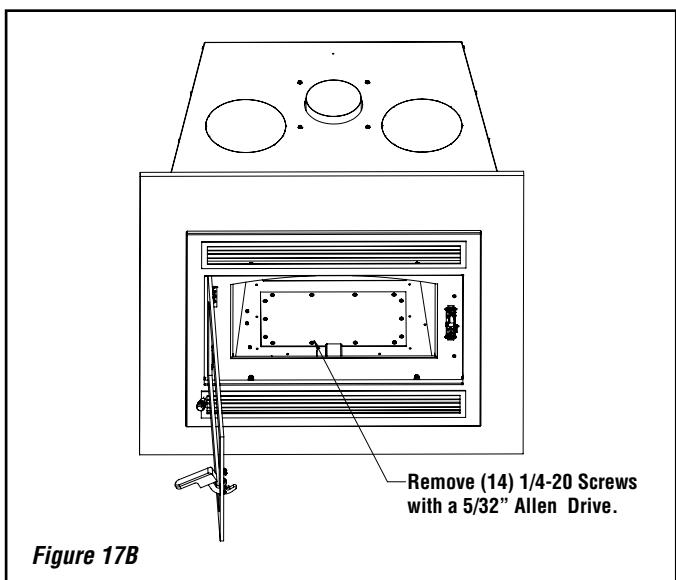

Figure 17B
4. Remove the bottom refractory panels (*pieces 1 and 2, Figure 6, Page 8*). Remove the 14 Cap screws with a 5/32" Allen Key (*see Figure 17B*).